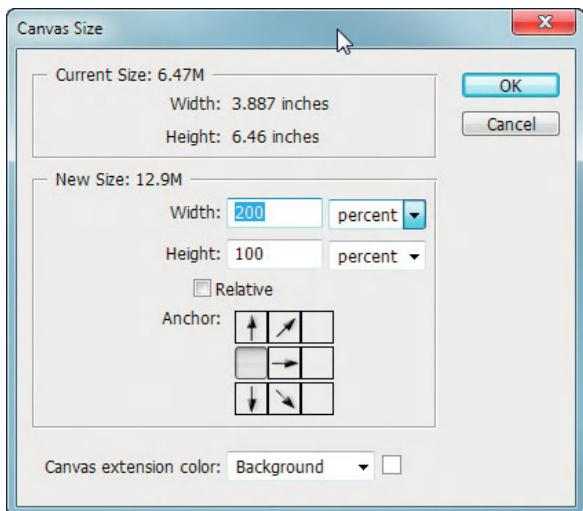

FIG A.8 Setting the Canvas Size to be twice as wide.
Step 11: Change the Canvas Size to be twice as wide. Do this by choosing **Image>Canvas Size...** Change the settings to match Figure A.8. This will move the current image over to the left side and make the canvas exactly twice as wide as it is.